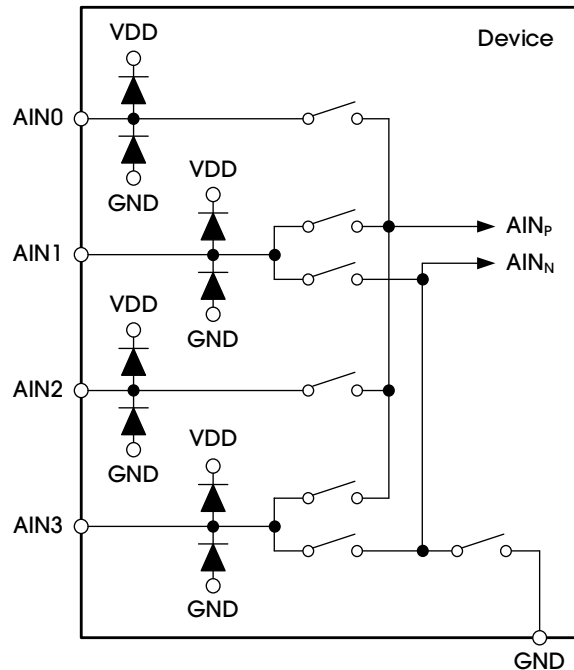

Figure 23. Input Multiplexer
The ADX112(Q) contains an input multiplexer (mux), as shown in Figure 23. Either four single-ended or two differential signals can be measured. Additionally, AIN0, AIN1, and AIN2 can be measured differentially to AIN3. The multiplexer is configured by bits MUX(2:0) in the CONFIG REGISTER. When single-ended signals are measured, the negative input of the ADC is internally connected to GND by a switch within the multiplexer.